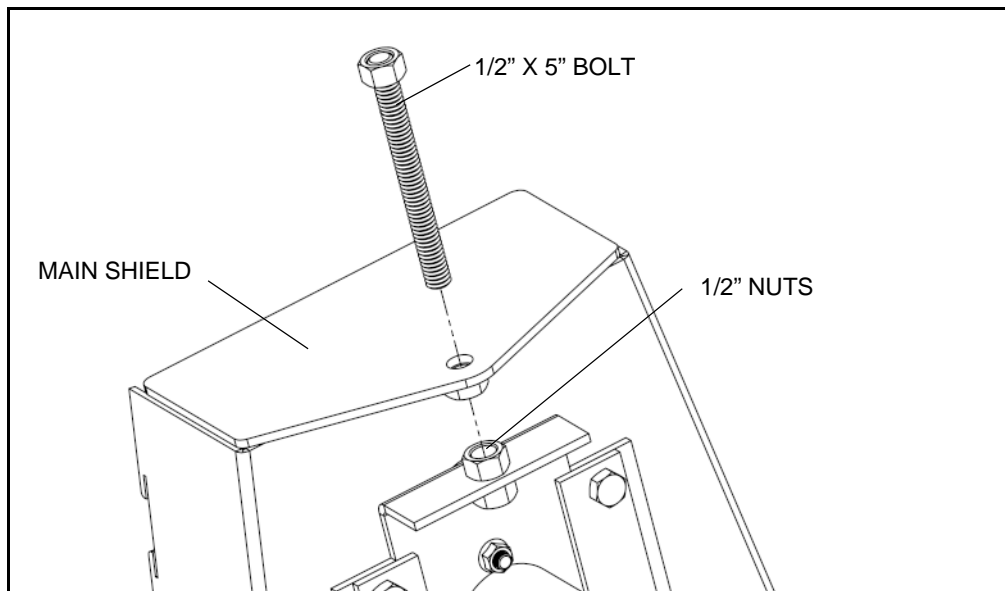

Figure 3.47
12. Install tensioner bolt at the top end of main shield and PTO idler with 1/2" x 5" bolt and three 1/2" nuts (Figure 3.47). Adjust the location of the slide using the nuts.